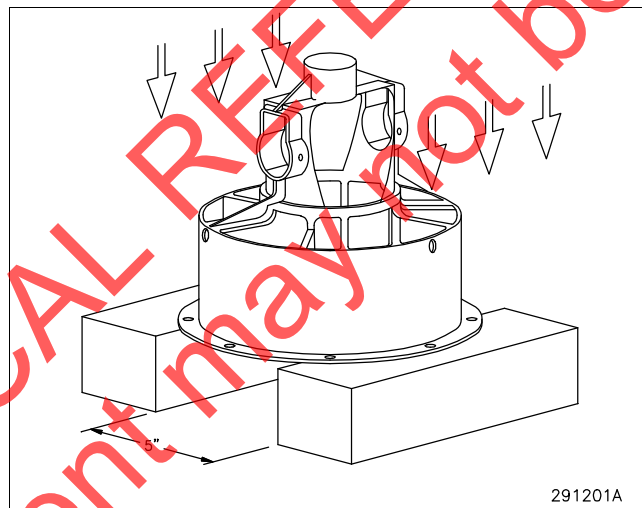

Figure 5-2. Model 2 Field Removal
- (f) Arrange two spacers consisting of 4" x 4" (102mm x 102mm) lumber or similar material, approximately 5" (127mm) apart on a solid work surface as shown in figure 5-2.
- (g) Sharply rap the motor housing against the spacers several times until the field drops out of the motor housing. The motor housing is aluminum die-casting. As a result, it can be broken or damaged. Therefore, use caution to ensure that the motor housing strikes the spacers squarely as indicated in figure 5-2.